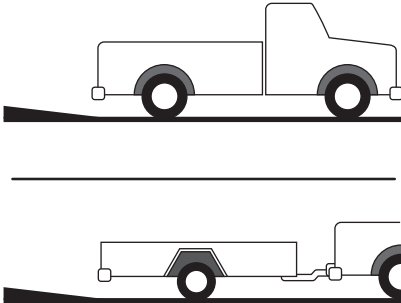

Figure 8
3. Face the truck bed or trailer towards a slight incline, which will reduce the steepness of the loading angle by bringing the bottom of the ramps up on the slight incline (Figure 8).